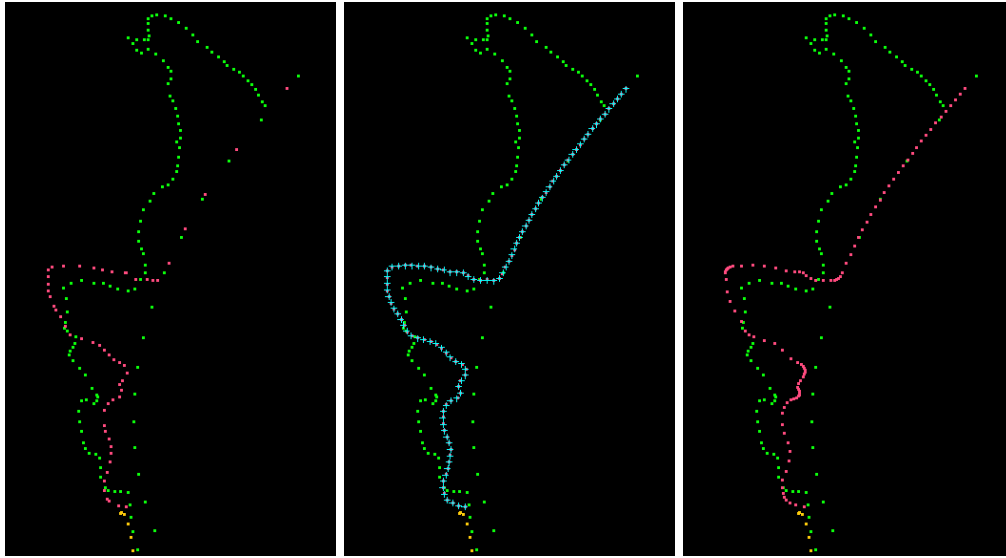

Figure 9. Left to right: original distribution; uniformly discretized to 100 points; discretized by curvature.
- Select `element_001` as the current object, and zoom in on the area at the leading edge of the airfoil (Figure 9). Select indices 1 and 56 as the endpoints of the subcurve by using the **Boundary→Choose Subcurve** menu selection.
- Make the changes permanent, or discard the changes the same way you did in the *Tanh Redistribution* window. Figure 9 illustrates these changes from rediscrretization.